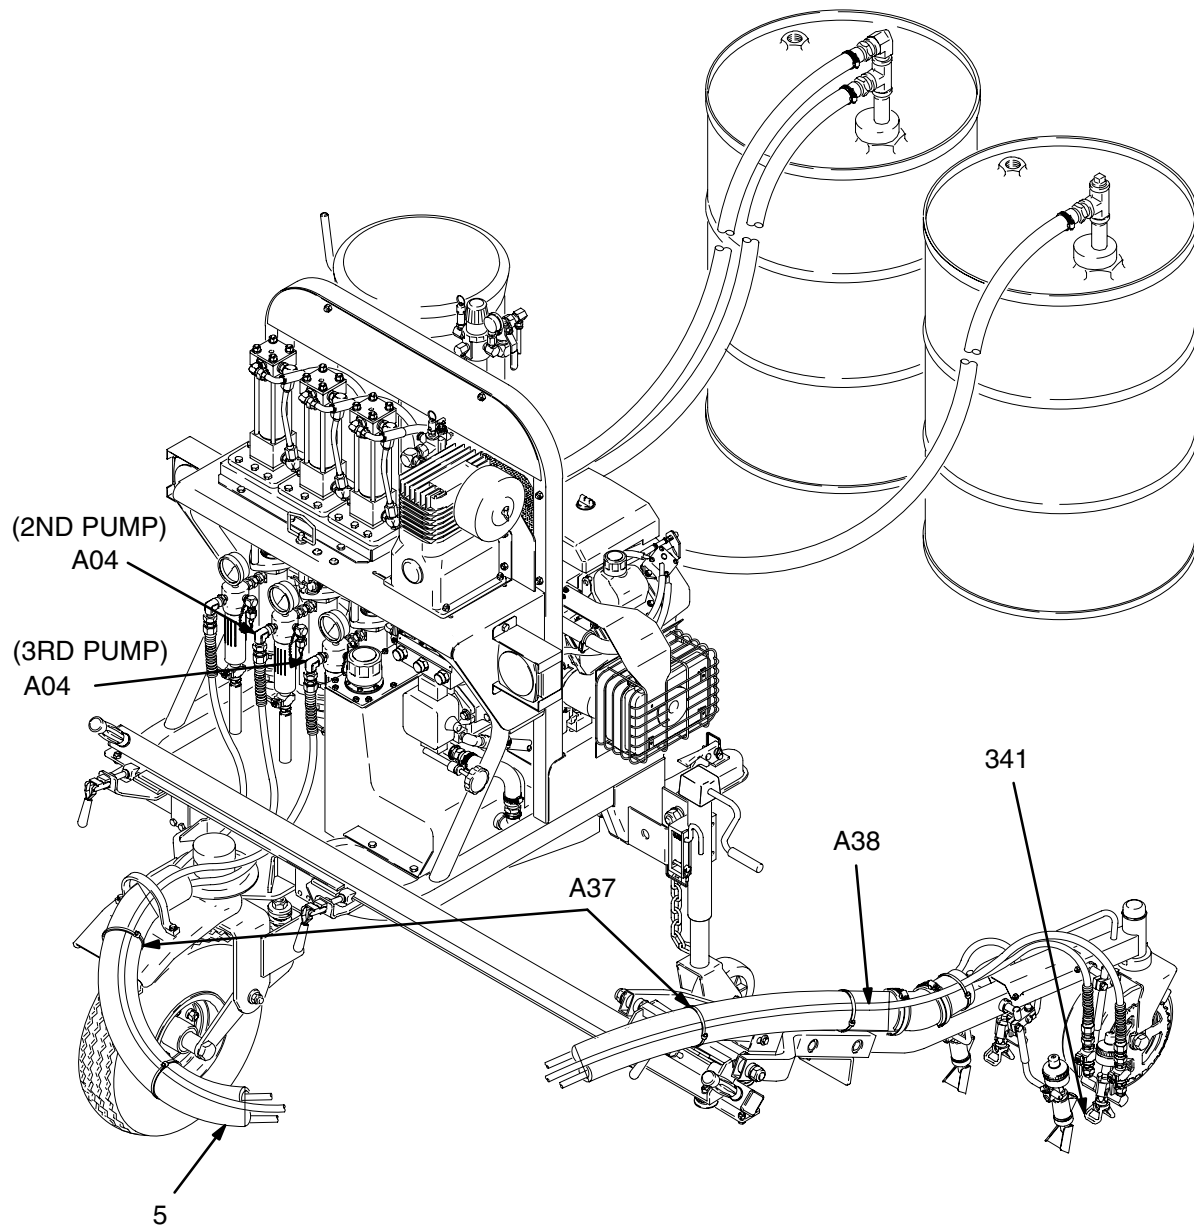

Fig. 3
3. See Fig. 3. Connect one end of coupled hose (A38) to swivel union (A04) on fluid filter. Route hose along protection tube (5) to second gun (341). Use tie straps (A37) to secure hose to tube.
4. Remove spare pipe plug from second gun (341). Attach hose to spare gun inlet using swivel union (A04) and ball valve (A39).